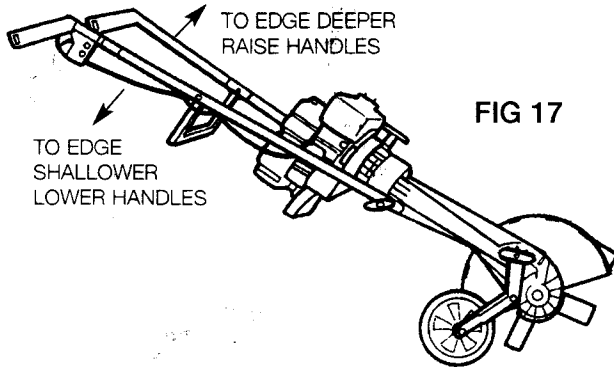

FIG 17
5. If blade is not deep enough, or if digging too deep, adjust blade height, or slightly raise or lower handles to suit depth required (Fig. 17). However, it is always more comfortable and relaxed to have arms fully extended downwards.